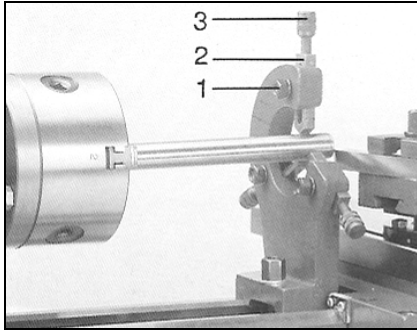

Fig 17
Tighten knurled screws (3, Fig 17) so that fingers (2) are snug but not tight against work piece. Tighten nuts (1).